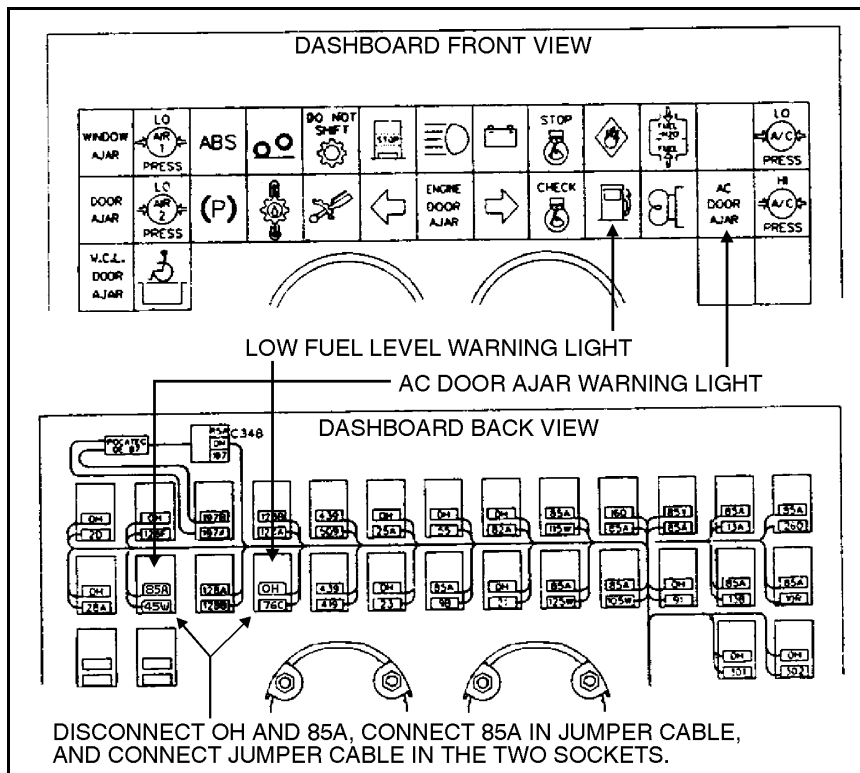

FIGURE 5: DASHBOARD INDICATOR LIGHTS
- Disconnect wire *OH* from "low fuel level warning light" socket (Fig. 5).
- Remove unused socket from position at which new "low fuel level warning light" socket should be installed (Fig. 5).